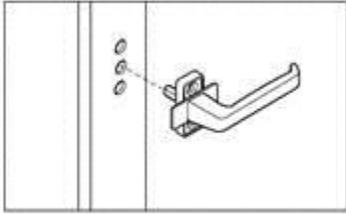

Figure 3 Handle in the horizontal position
- a. Rotate the handle to the horizontal position, with the handle pointing toward the hinge side of the sash. Install the handle on the sash, insert the shaft into the center hole. See *fig. 3*.